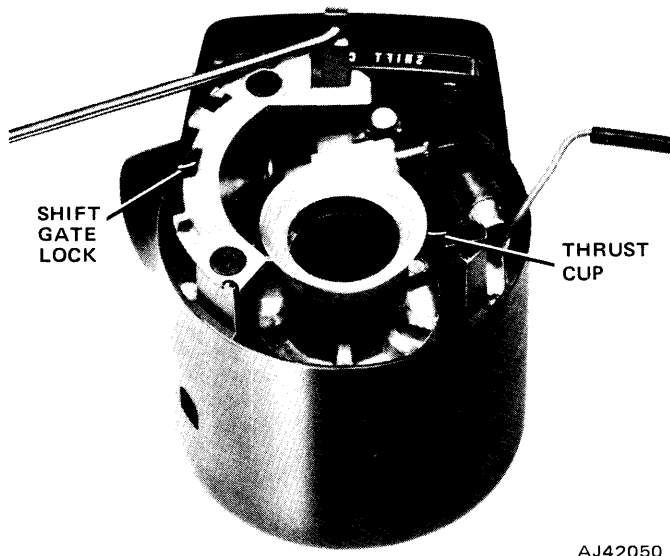

Fig. 11-26 Thrust Cup Position
(23) Remove ignition switch from lower end of column.
(24) Remove upper housing attaching screws and remove upper housing.
(25) Remove thrust cup from upper housing (fig. 11-26).
(10) Install shift gate lock and install two counter-sunk attaching screws (fig. 11-26). Tighten screws to 45 inch-pounds torque.
(11) Install shift quadrant lamp and install lamp cover.
(12) Install shift quadrant indicator and press retainer clips into place with flat side toward bowl.
(15) Install nylon thrust cup in upper housing with flared end of cup facing outward (fig. 11-26).
(16) Rotate shift bowl counterclockwise to stop and install upper housing. Tighten housing attaching screws to 60 inch-pounds torque.
(17) Guide shift quadrant lamp wire and remote lock rod into position between shift bowl and column jacket.
(18) Install turn signal switch and harness assembly in column.
(19) Remove tape from turn signal switch wire harness connector and position harness in protector and protector-to-column jacket.
(20) Install turn signal switch retaining screws. Be sure switch actuating lever pivot is correctly aligned and seated in upper housing pivot boss before installing screws.
(21) On vehicles without Cruise Command, install turn signal lever and lever attaching screw. Tighten screw to 35 inch-pounds torque.
(22) On vehicles with Cruise Command, install turn signal lever and switch assembly. Guide wires into housing using string previously taped in place. Remove string and tape. Connect wires to switch terminals. Install lever attaching screw and tighten screw to 35 inch-pounds torque.
(23) Install steering shaft if removed. Install shaft through lower end of column and into upper bearing.
(24) Install thrust washer, upper bearing preload spring, and canceling cam on upper end of steering shaft.